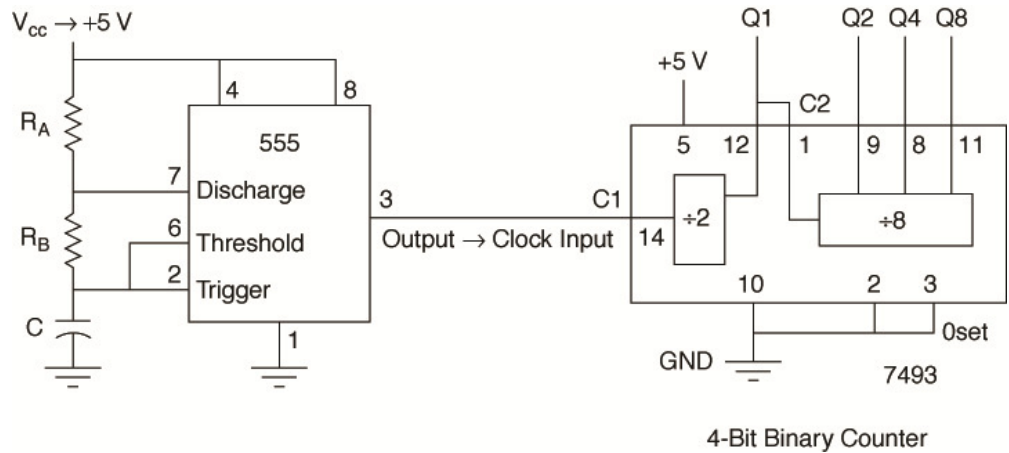

Figure 5.6. Schematic Diagram 4-bit Binary Counter
2. Configure the chip as a divide-by-16 counter by connecting a jumper wire from pin 12 (Q1) to pin 1, Clock 2 (C2), on the 7493 chip, as shown in Figure 5.6.